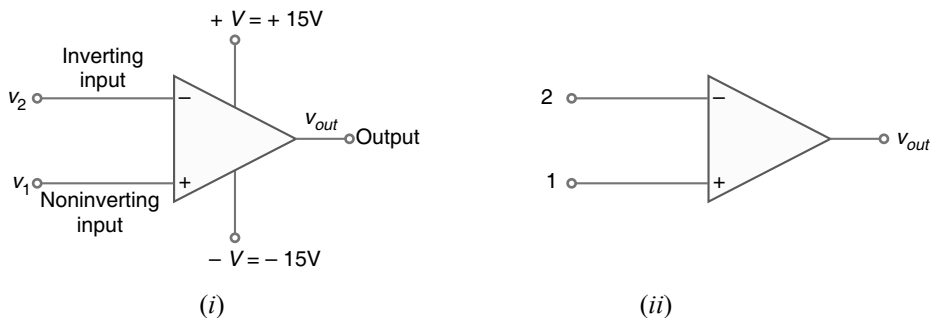

Fig. 23.39
- (iv) For the sake of \*simplicity,  $+V$  and  $-V$  terminals are often omitted from the symbol as shown in Fig. 23.39 (ii). The two input leads are always shown on the symbol regardless of whether they are both used.